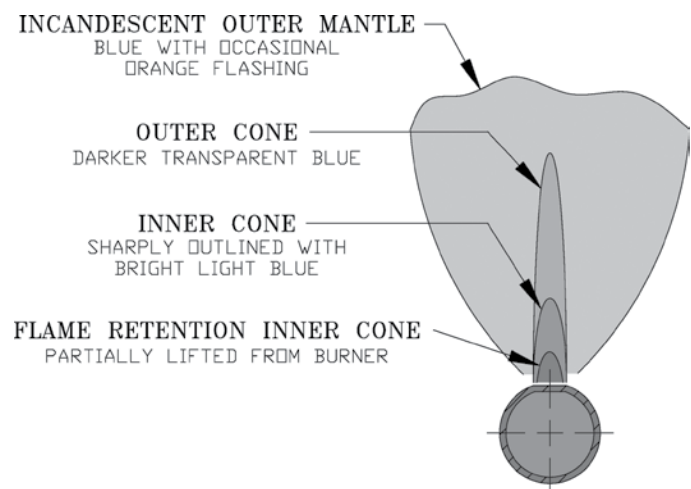

Figure 47: Main Burner Flame
- Check main burner flames. See Figure 47. Flame should have clearly defined inner cones with no yellow tipping. Orange-yellow streaks caused by dust should not be confused with true yellow tipping.